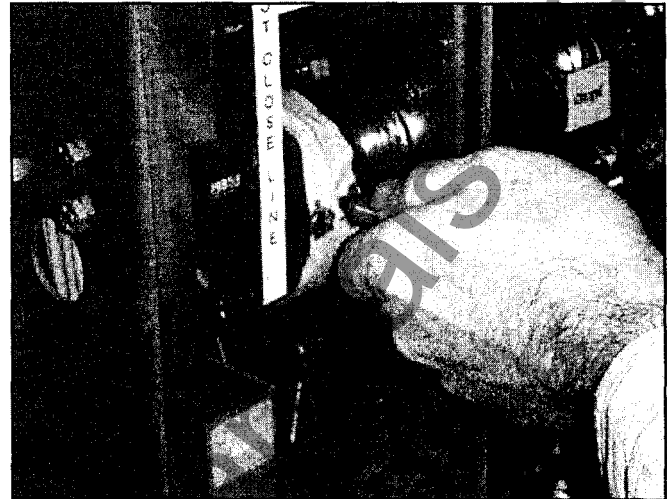

Figure 6-10 Make a Clear and Heavy Mark
**Step 6** - A Sanford® Sharpie® black fine point permanent marker, item no. 30001, is recommended for this next step. Place the marker tip in the proper hole ("C"). Make a heavy mark on the tape as shown in Figure 6-10.